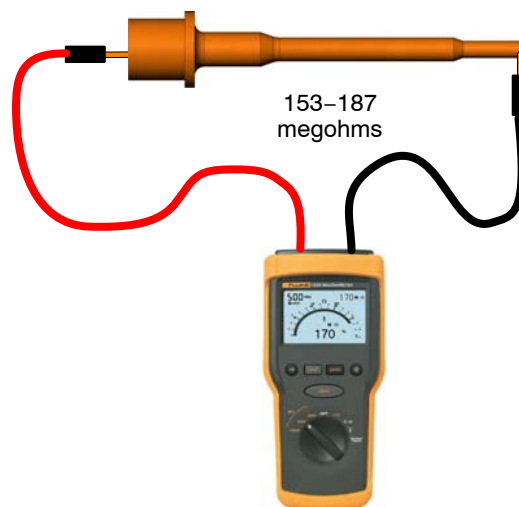

Figure 14 Resistor Resistance Test
2. See Figure 14. Connect the megohm meter probes to the resistor spring and electrode spring.